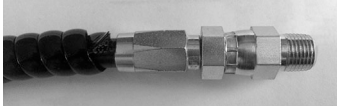

FIG. 94
7. Thread the stud of the nipple clockwise into the socket installed in the hose until the nipple nearly bottoms out against the socket shoulder (FIG. 94).